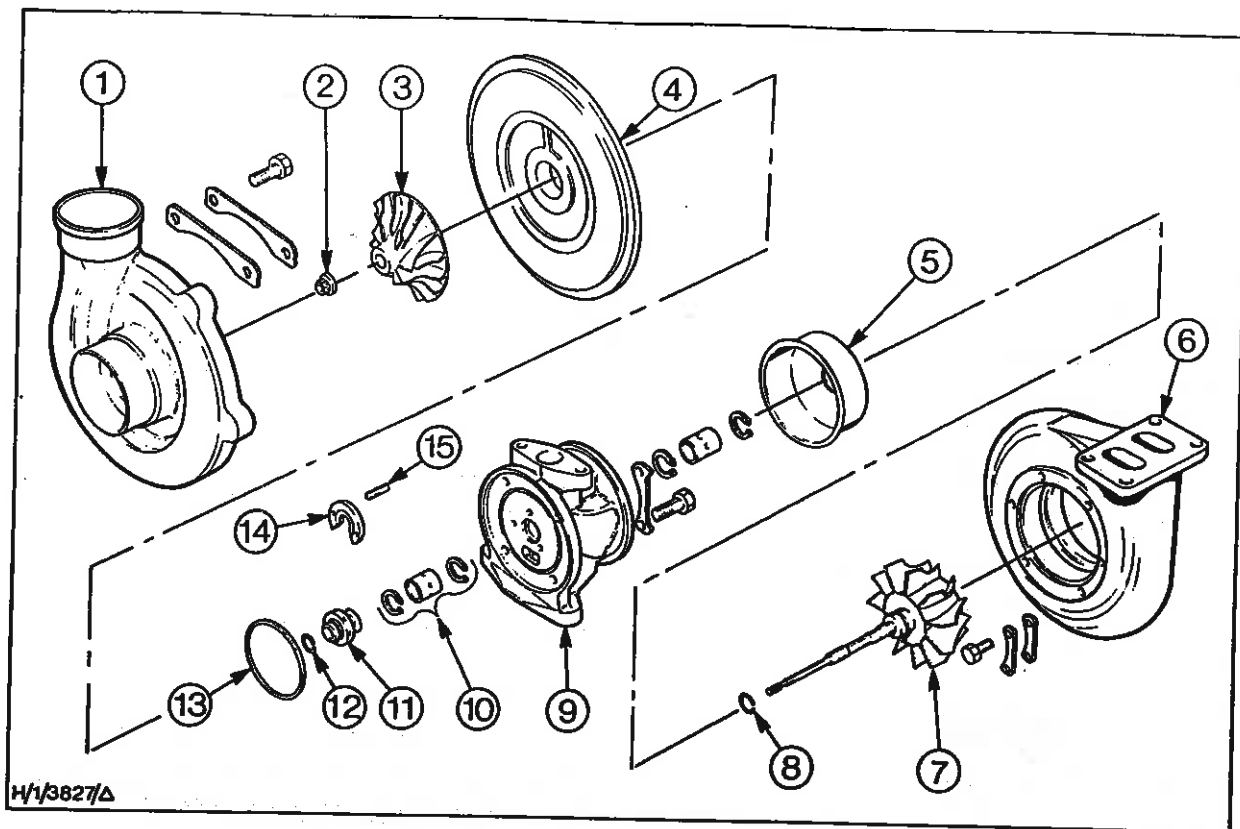

Fig. 44 - Exploded View of Garret AiResearch Turbocharger
**Assembly - Refer to Figs. 44 and 45**